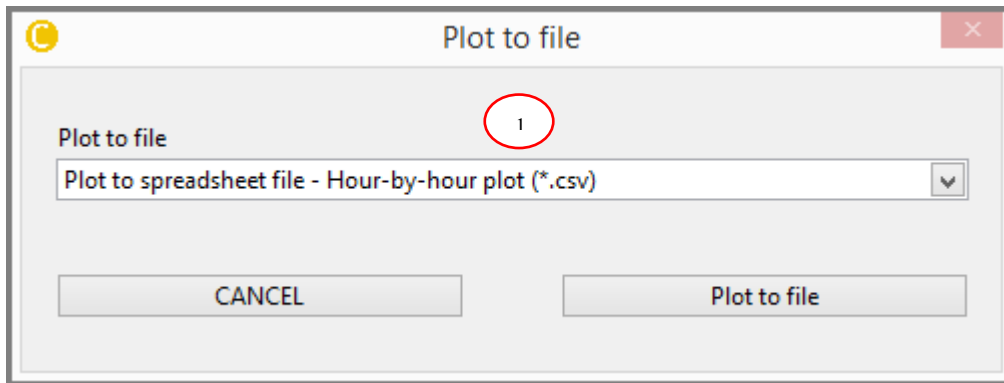

Figure 4-13: Plot TAB - Plot to file
By pushing the "**Plot to File**" button in the plot settings section a pop up dialog appear as shown in the Figure 4-13 allowing the user to **Export the plot** in two different formats:
- Choose the format from the **pull down menu** as indicated by 1 (encircled 1) from Figure 4-13